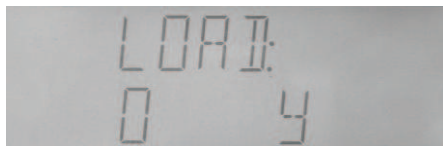

Figure 4-28 Loading file
- a) Select "LOAD" at file operation page through **◀** or **▶** key, as shown in Figure4-28.